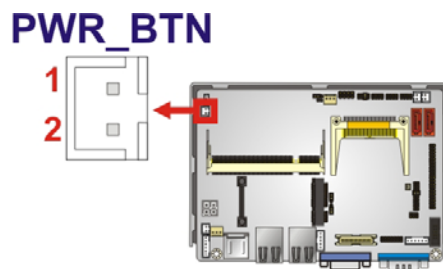

Figure 3-7: Power Button Connector Location
- CN Location:** See **Figure 3-7**